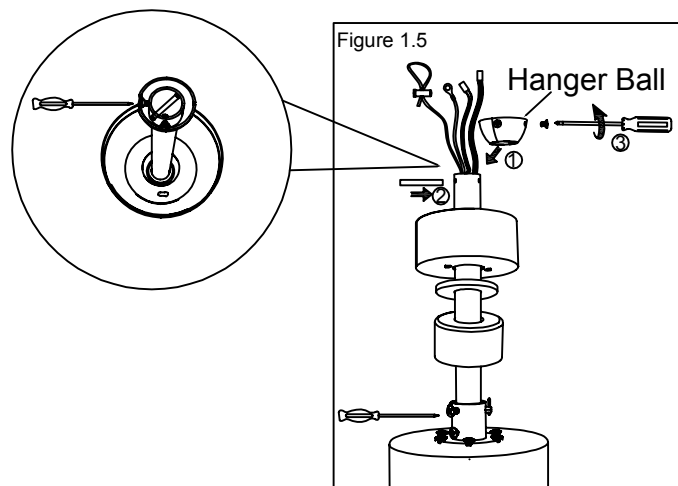

Figure 2.4
- Reattach the hanging ball to the lower rod with wires running through the hanging ball. Position the pin through the two holes of the lower rod and align the hanging ball so that the pin is caught in the groove at the top of the hanging ball. Pull the hanging ball tightly onto the pin. Securely tighten the setting screws inside the suspension ball. A loose setting screw may cause the fan to wobble. (Figure 2.4)